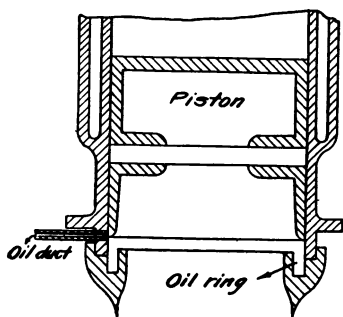
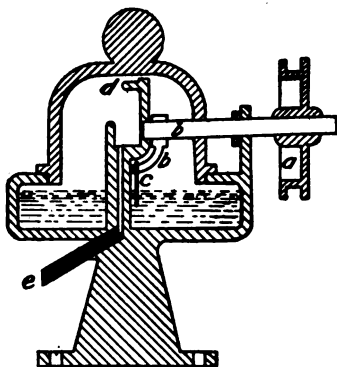

FIG. 37.—Oil Ring.
FIG. 38.—Mechanical Lubricator.
**Lubricators.** The mechanical feed appears in various forms. One is shown in Figs. 37 and 38. The oil is fed by pump or mechanical
lubricator into the oil duct to the oil ring around the base of the cylinder, Fig. 37. At each stroke the lower edge of the piston dips into the oil in the oil ring and oil is drawn up the cyl-
inder wall. The lubricator is shown in Fig. 38. A small belt from the main or counter-
shaft drives the pulley *a*. This revolves the spindle and crank *b,b*, which carries the loose wire *c*. This wire dips into the oil at every revolution and carries a small amount to the wiper *d*, from which the oil drips to the passage *e*. This passage connects with the oil duct in Fig. 37. As the pulley *a* revolves at a certain relative speed to the main shaft, the oil supplied is proportional to the speed. In Fig. 38 the central bracket which carries the wiper *d* is back clear of the path of spindle and crank *b,b*, as they revolve.